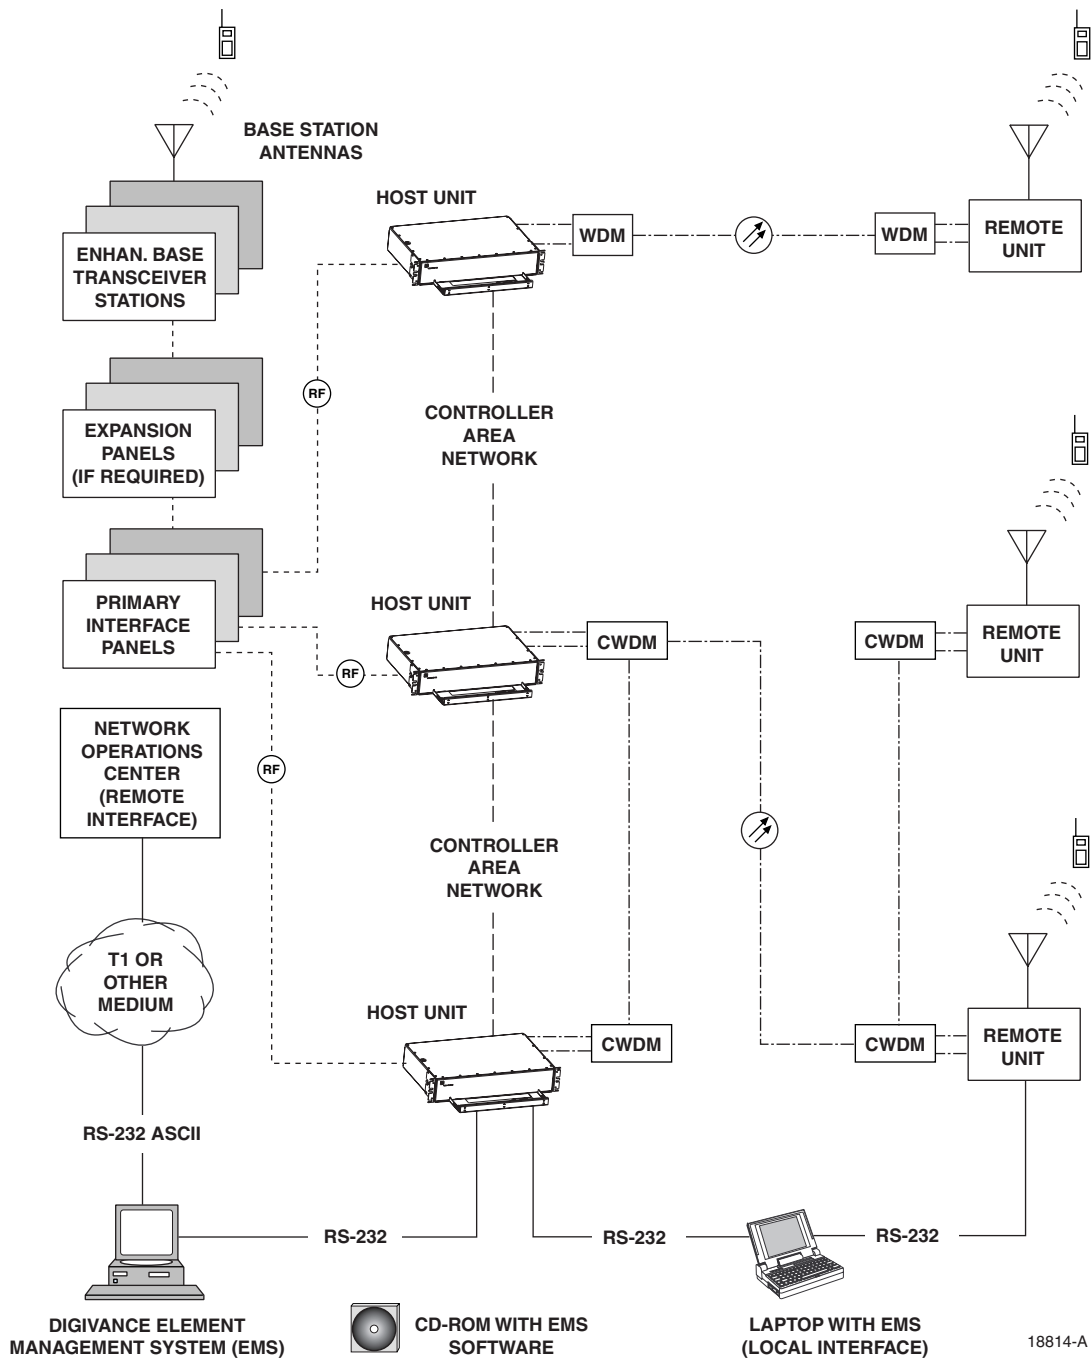

Figure 1-1. 20 Watt System Overview Diagram
The basic components of a Digivance 20 Watt System and their functions are shown in Figure 1-1. A 20 Watt system consists of the Host Unit (HU) and the Remote Unit (RU). Both an indoor and an outdoor remote unit are available. Control and monitoring functions are provided by the Digivance Element Management System (EMS), a PC-based software program. In addition, various accessory items are available separately including a passive Wavelength Division Multiplexer (WDM) system, an active Coarse Wavelength Division Multiplexer (CWDM) system, primary interface panels and expansion panels (for interfacing multiple HU's